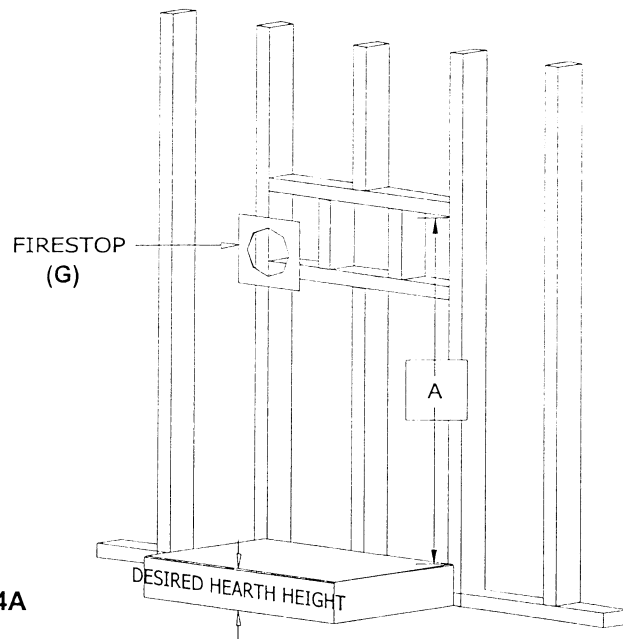

Fig. 4A
See Figure 4A.
- 7b. The flexible termination kit includes an interior firestop assembly (G) shown on figure 4A, page 6, which is installed on the inside wall (over wall materials), around the flexible pipe. Slide the firestop over the flex pipe with the spacer legs toward the wall. **OPTIONAL: Apply a liberal bead of sealant around the outside / wallside edge and place over the 9 1/2" square opening.**
9. Place a bead of sealant outside the 4" flex pipe collar (C) and slide it inside the 4" pipe on top of the stove (D). This is a snap lock connection. Secure with 3 evenly spaced screws.